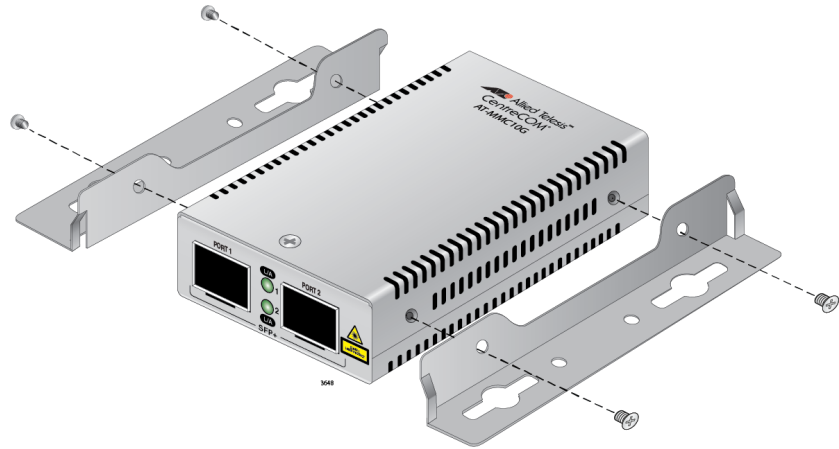

Figure 31. Attaching the Brackets to the Media Converter
- Orient the brackets against the sides of the unit, as shown in Figure 31, and secure them to the unit with the four of the brackets screws included.